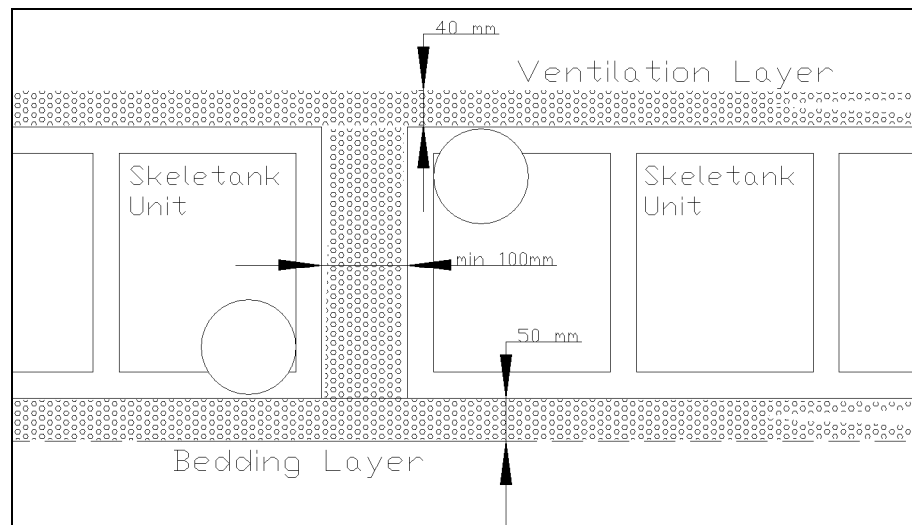

Figure 8
- Step 6** Take care during backfilling that you do not disturb the tanks, each Skeletank® comes with a geotextile for covering the tanks; place the geotextile over the tank to avoid gravel from entering during backfilling, place the stone carefully around the 110mmØ pipes and between the Skeletanks® (See Figure 8) the 10mm stone is generally self compacting but can be tamped in place using the end of a piece of wood.
Complete backfilling up to the top of the Skeletank units then place a 40mm layer of the 10mm stone on the geotextile over the Skeletank units to act as a ventilation layer (see figure 8). If it is not possible to vent the tanks using a gravel ventilation layer, the upper 110mm stubs on the Skeletank units may be connected together and piped to a vent as necessary. The Skeletank units are now completely installed and ready for you to install your surfacing i.e. Paving, Blocks etc. If covering with topsoil you will need another geotextile to cover the gravel ventilation layer.